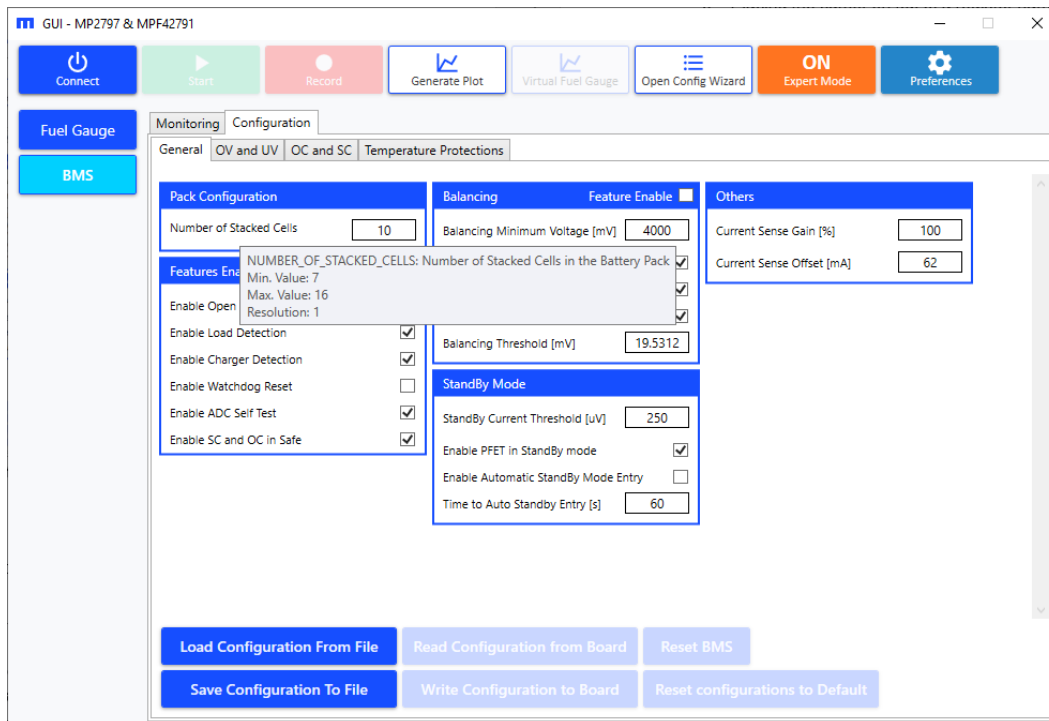

Figure 44: BMS Configurations (Register Details)
3. Place the cursor on top of the register name to display that register’s information of that register (see Figure 44).